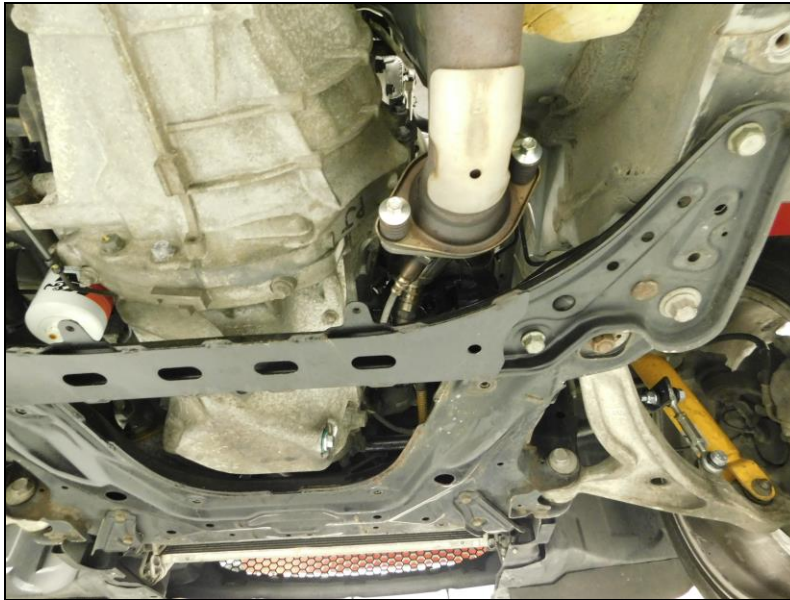

Figure 3
5. Position the exhaust pipe on to donut gasket and align the flanges. Install the factory exhaust springs on to the provided spring bolt and install the assembly into the flanges. Install the supplied M8 flange nuts on to the spring bolts and tighten to 35 ft.lbs. (Figure 3).